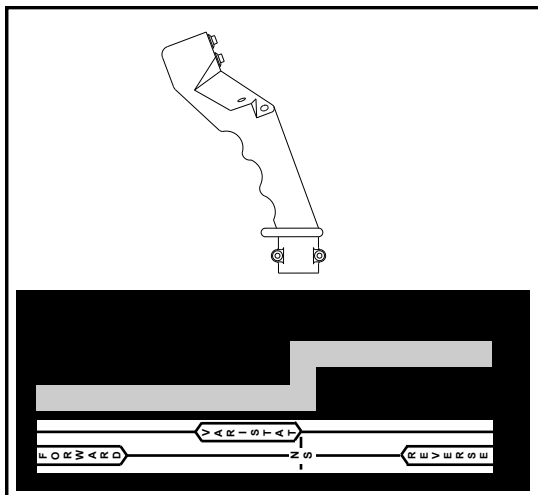

FIG 5.5
2. To move forward, slowly push the hydrostatic control lever (fig. 5.5) forward. The farther the control lever is moved, the faster the detasseler will travel. To stop, slowly pull the lever to the “N” (neutral) position.